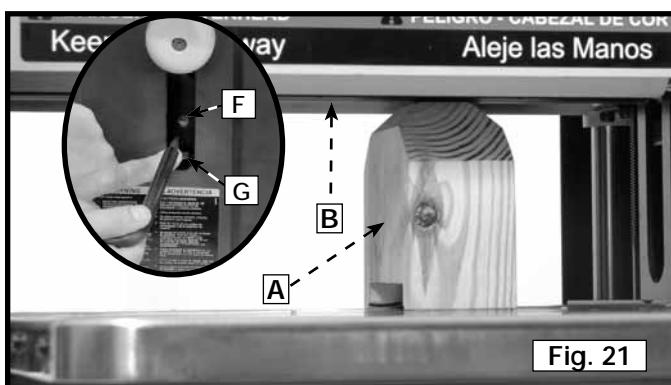

Fig. 21
3. Position the gauge block (A) Fig. 21 on the table underneath the cutterhead. Insert a 0.020" (.5 mm) feeler gauge on top of the gauge block.
4. Lower the head assembly and rotate the cutterhead until one of the knives (B) touches the top of the feeler gauge. **NOTE:** Pull the guard down (G, inset Fig. 21) to gain access to the hex hole. Insert the supplied wrench into the hex hole (F) and turn to rotate the cutterhead. Tighten the cutterhead lock handle.